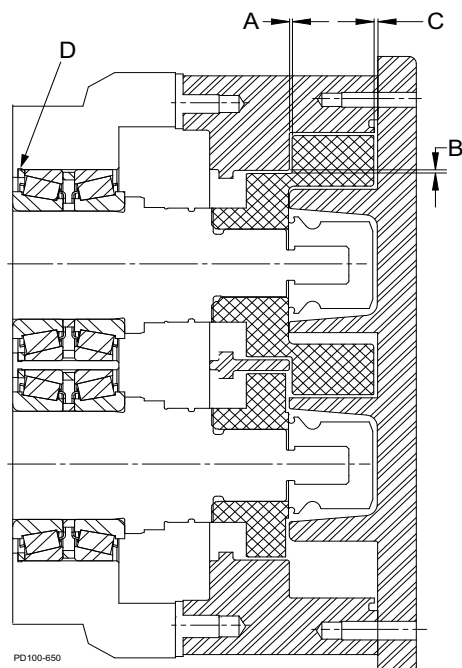

Figure 293 - Clearance Measurements
- With feeler gauges, measure the rotor backface clearance (Figure 293, item A), through the port or from the front.
- Measure the rotor front face clearance (Figure 293, item C).
- Measure the rotor to body clearance (Figure 293, item B).
- To make shim adjustments, first remove the rotors, body and shafts. Make the required shim adjustment and reassemble. (Figure 293, item D is the front bearing rear shim.)